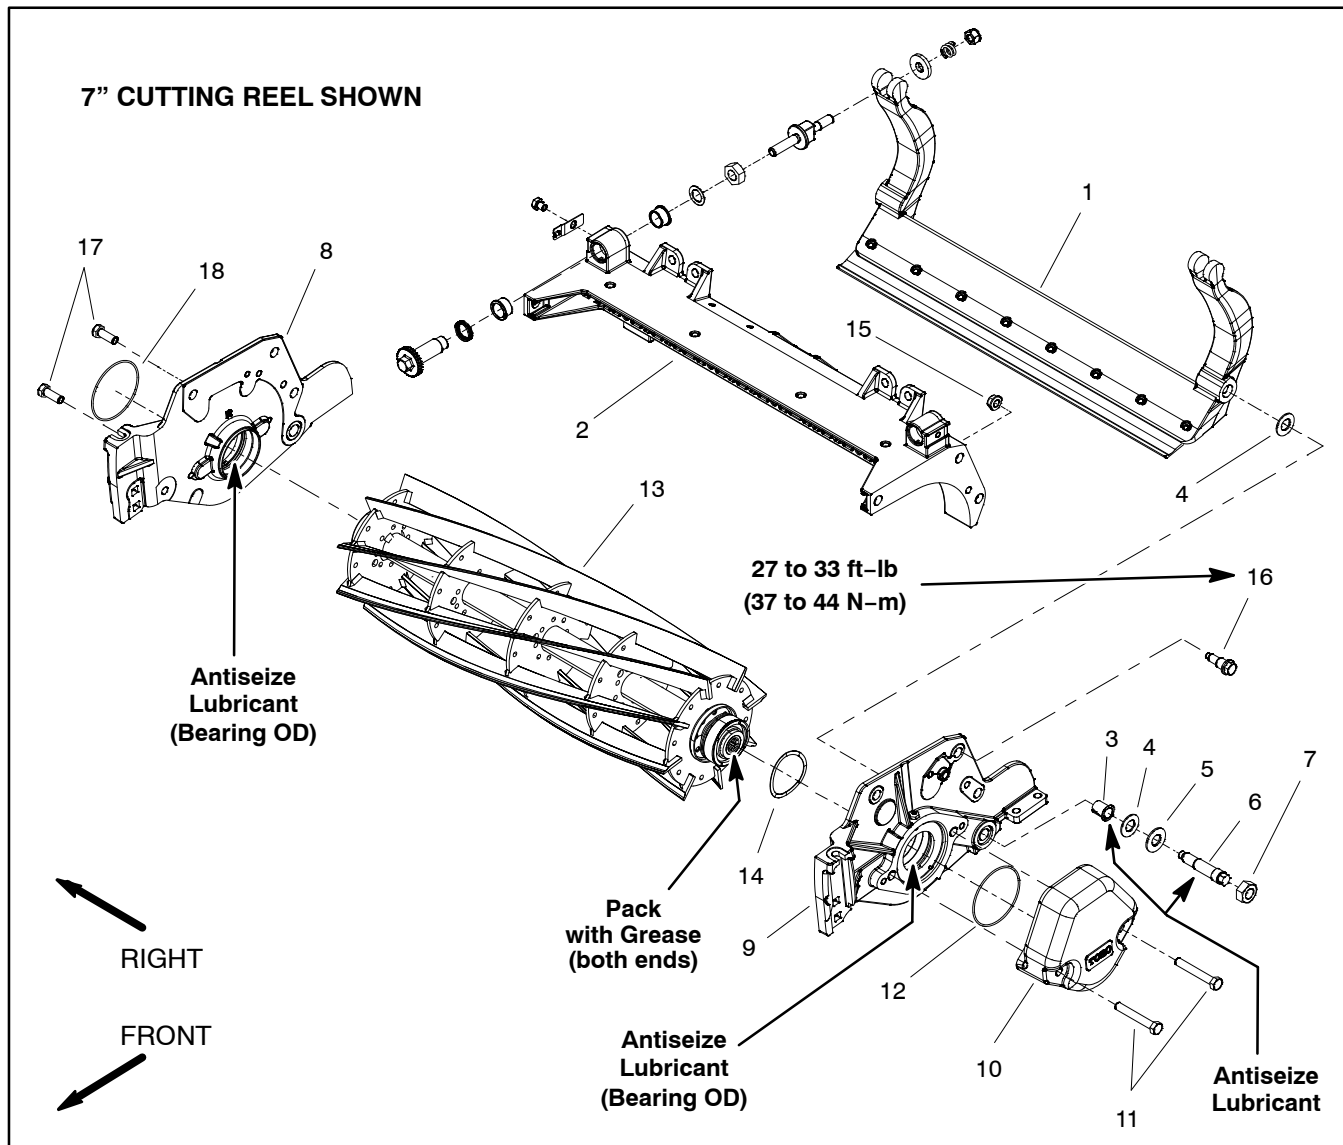

Figure 32
5. Make sure that flat wire spring (item 14 in Fig. 32) is installed into LH side plate.